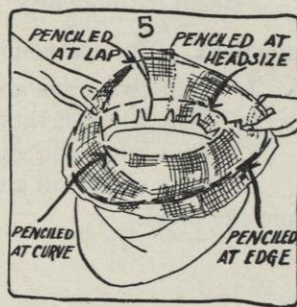

FIG. 5.
- a. Mark with pencil the edgewire, headsize, direct front, any particular line which you want to be sure to remember, and the lap of the seam (see Figure 5).
- b. Remove all pins, (or tacks) and place them in a separate box (as starch ruins them and they can not be used for other things). Note that there are no pins in Figure 5.
- c. Remove frame by slipping fingers between the frame and the block, using great care not to stretch or to pull brim out of shape; move only a small portion at a time (see Figure 5).
- (2) Sew rising braid or bias of willow against slashes of headsize and on the outer side of headsize (see Figure 5 of Job 25, page 105). If you have done this skip Sections (3) and (4).
- (3) Make a headsize band the required size (see Job 1 page 3).
- (4) Pin the headsize band to the stretched brim, either on the penciled headsize line or evenly on the inside of it, if it is smaller than the model headsize, or evenly on the outside of it, if it is larger than the model headsize (see Figures 5 and 7 of Job 8, page 35) and sew in place with back stitches (see Figure 5 of Job 25, page 105).
- e. Press if necessary (see Figure 5 of Job 24, page 101).